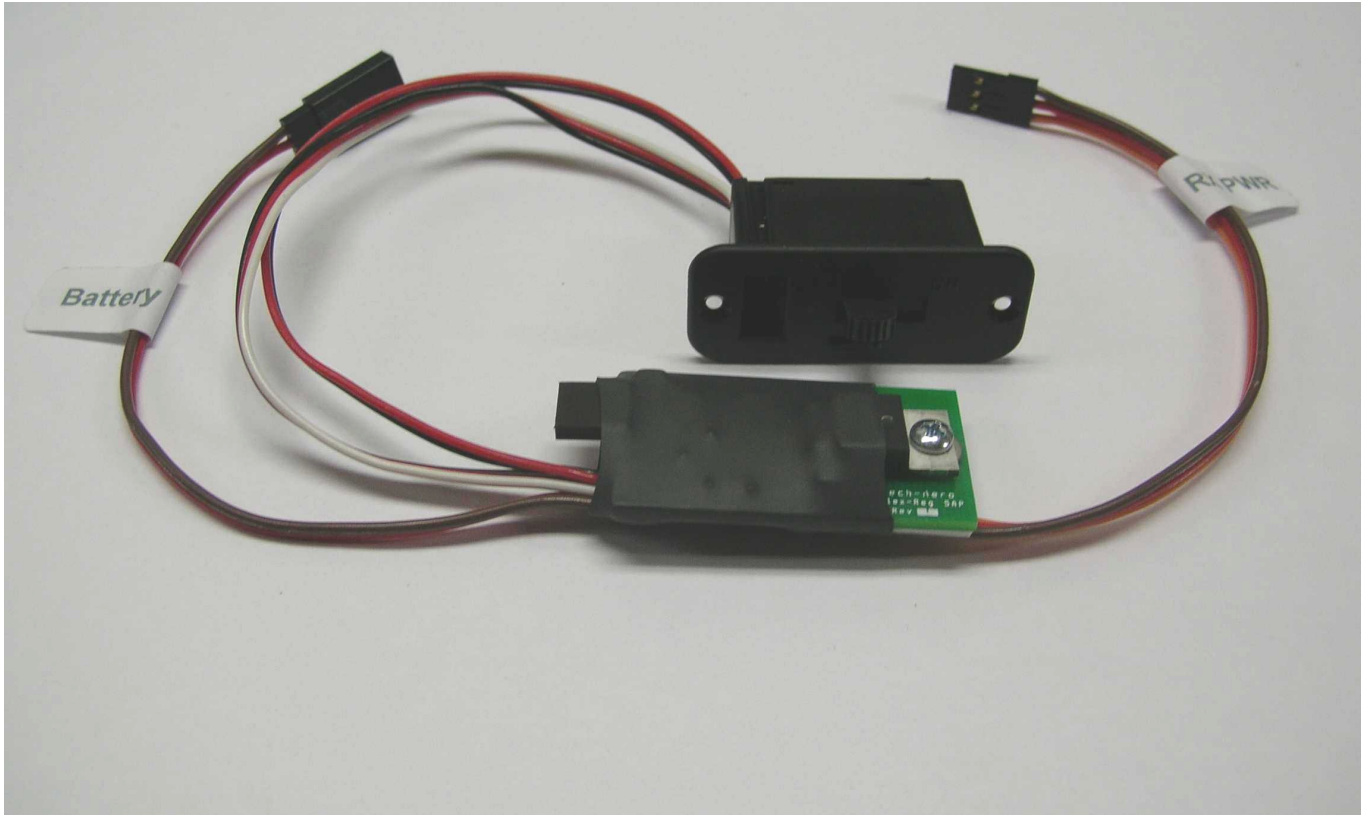

Figure 2 - PLR5-I with integrated switch & DSC/Charger jack
- Integrated Switch and Battery voltage monitoring/charge port / DSC connection option (Figure 2)